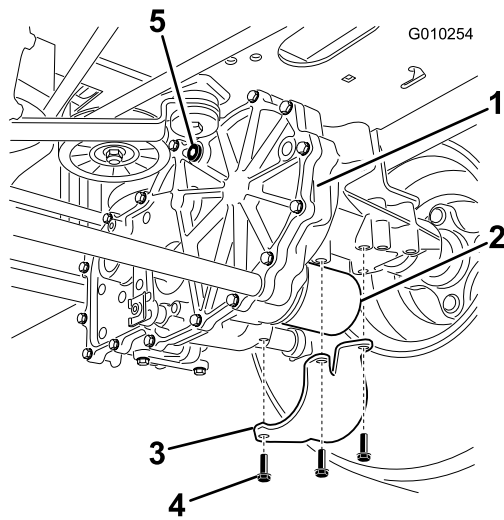

Figure 37
4. Locate the filter and filter guards on each transaxle drive system (Figure 37). Remove three screws securing the filter guard and guard.